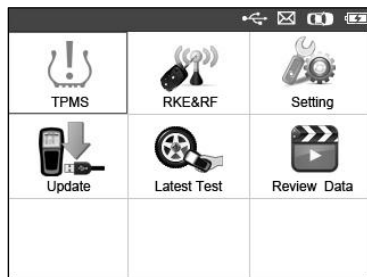

Figure 2-2 Sample Main Menu Screen
1. Use the **UP/DOWN** scroll button to select **TPMS** from **Main Menu** (*Figure 2-2*), and press the **Y** button to confirm.